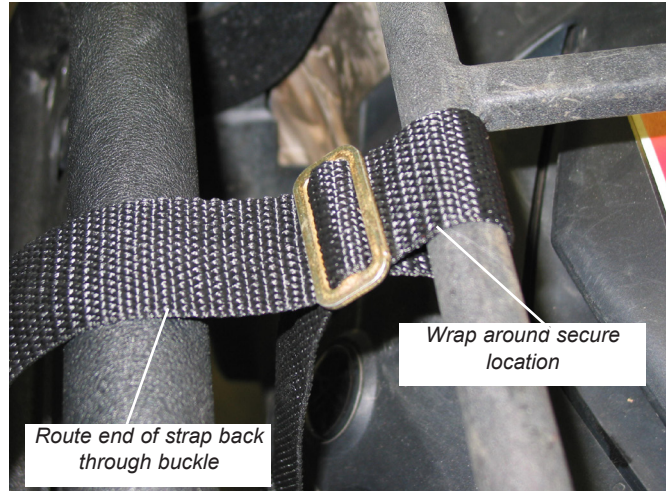

Figure 13
2. Attach the strap to a solid structure on the front of the ATV as shown in Figure 13. Front racks, bumpers, or brushguards are ideal candidates, depending on the make and model of the ATV. If at all possible, the strap should run directly between the attachment point on the ATV and the blade without touching any other part of the ATV. WARN PN 82012 rack extension kit is available if additional clearance from front of vehicle is required. Position the D-ring as high off the ground as practical, doing so will provide the maximum amount of lift. It is recommended that weight is placed on rack or front bumper of vehicle is pushed down for final strap adjustment.